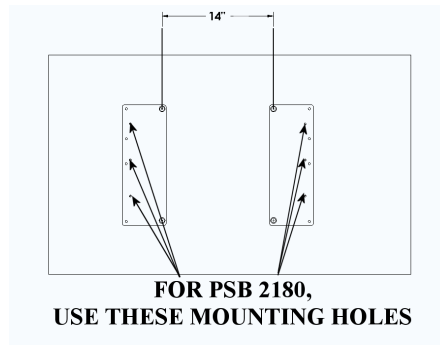

Figure 3
2. Attach mounting brackets to plasma display as shown utilizing the M8 button head cap screws (see Figure 3).